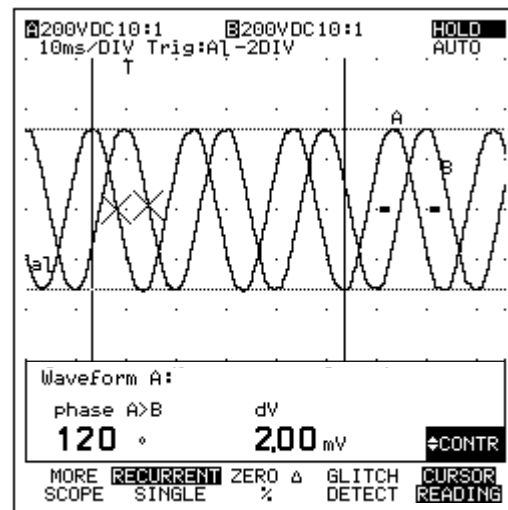

Figure 7-12. Phase Measurement (with Markers)
- ⑥    Go to page 2 within the More Scope window.
- ⑦  Choose ADD MAIN READING.
- ⑧  Open the list box.
- ⑨  : phase A>B  .
- ⑩  Close the window.
- ⑪   Position the two cursors on the waveforms; see Figure 7-12.
The display shows the phase between the waveforms on INPUT A and INPUT B: "phase A>B -120°" (see Figure 7-12).